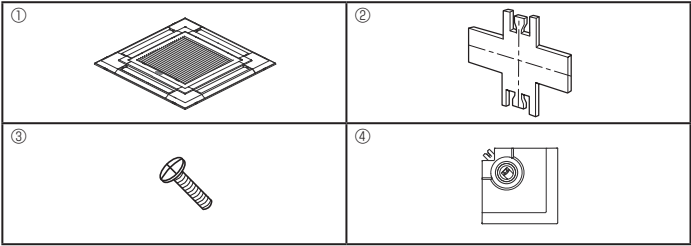

Fig. 9-1
9.1. Checking the contents (Fig. 9-1)